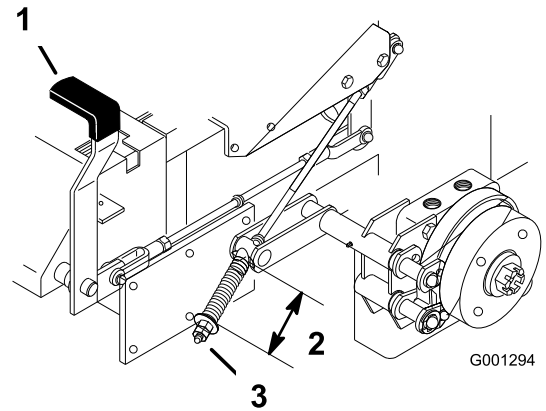

Figure 64
2. Measure the length of the spring. Measurement should be 2-1/2 inch (64 mm) between the washers (Figure 64).
3. If adjustment is necessary, release the parking brake, loosen the jam nut below the spring and adjust the nut directly below the spring (Figure 64). Turn the nut until the correct measurement is obtained. Turn the nut clockwise to shorten spring length and turn counter-clockwise to lengthen the spring.